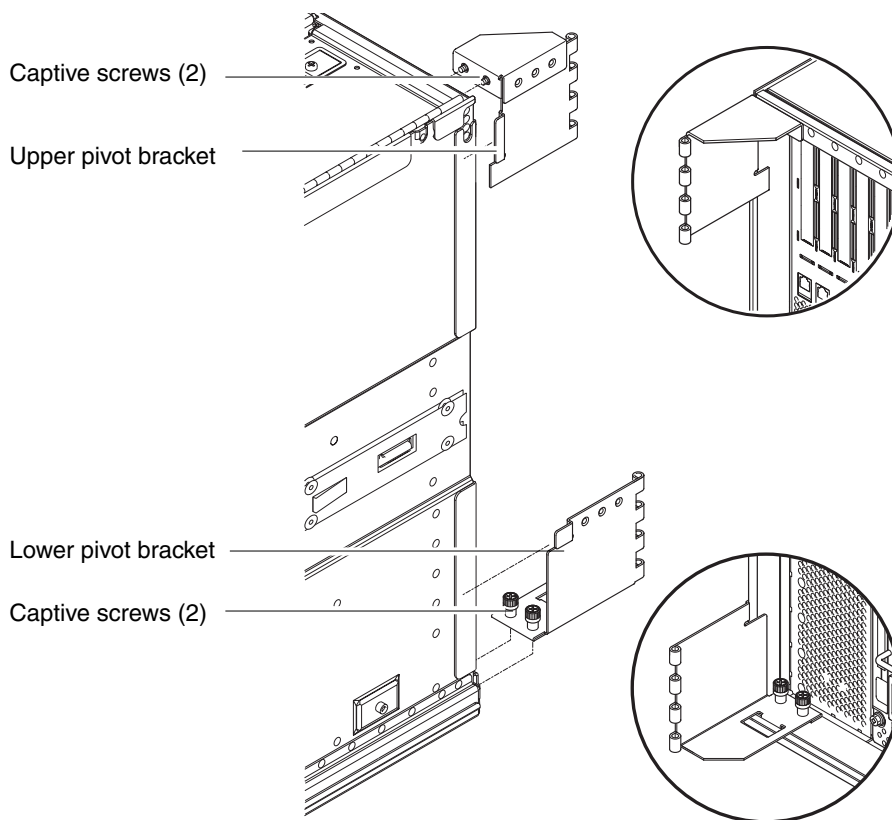

FIGURE 1-15 Installing the Upper and Lower Pivot Brackets
2. Remove the hinge pin from the lower pivot bracket of the power cable arm (FIGURE 1-15).
3. Secure the upper pivot bracket to the system, using the two captive screws (FIGURE 1-15).
4. Secure the lower pivot bracket, using the two captive screws (FIGURE 1-15).